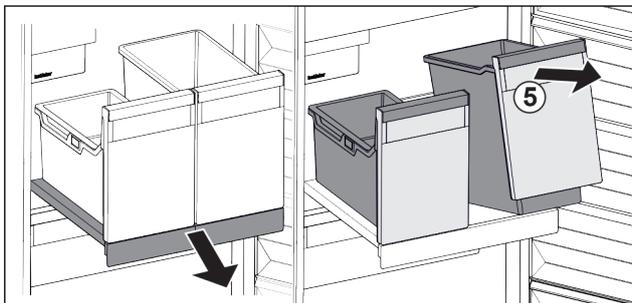

Fig. 25
- ▶ Lift the container Fig. 25 (5) at the front.